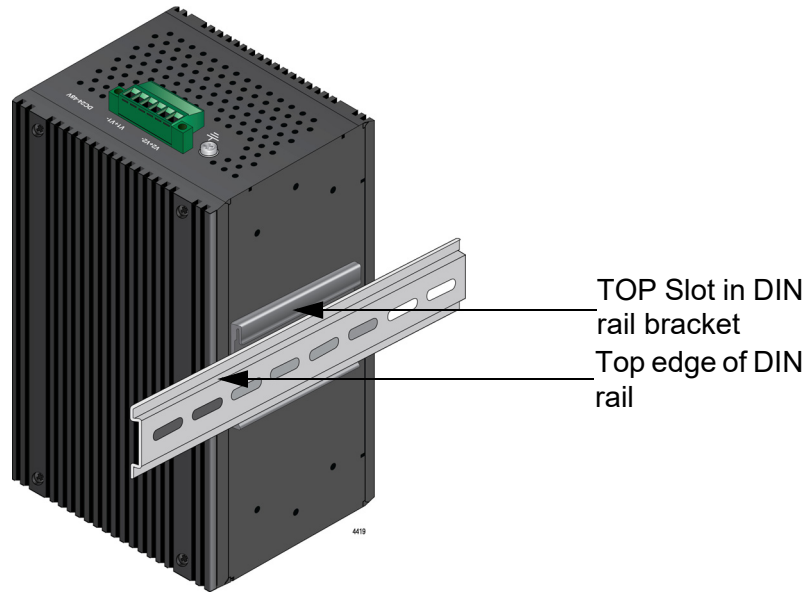

Figure 22. Install Top Slot of DIN Rail Bracket onto DIN Rail
1. Slide the slot on the top of the DIN rail bracket onto the top edge of the DIN rail. Refer to Figure 22.